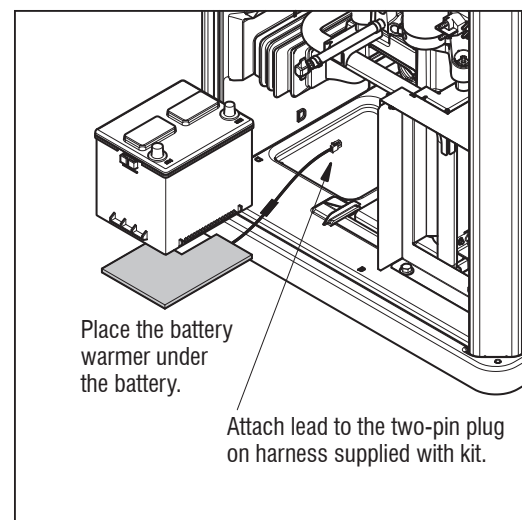

Figure 2
3. Place the heater pad under the battery (Figure 2).
5. Connect the two-pin plug to one of the plug equipped leads on the kit's wiring harness. (Figure 2).